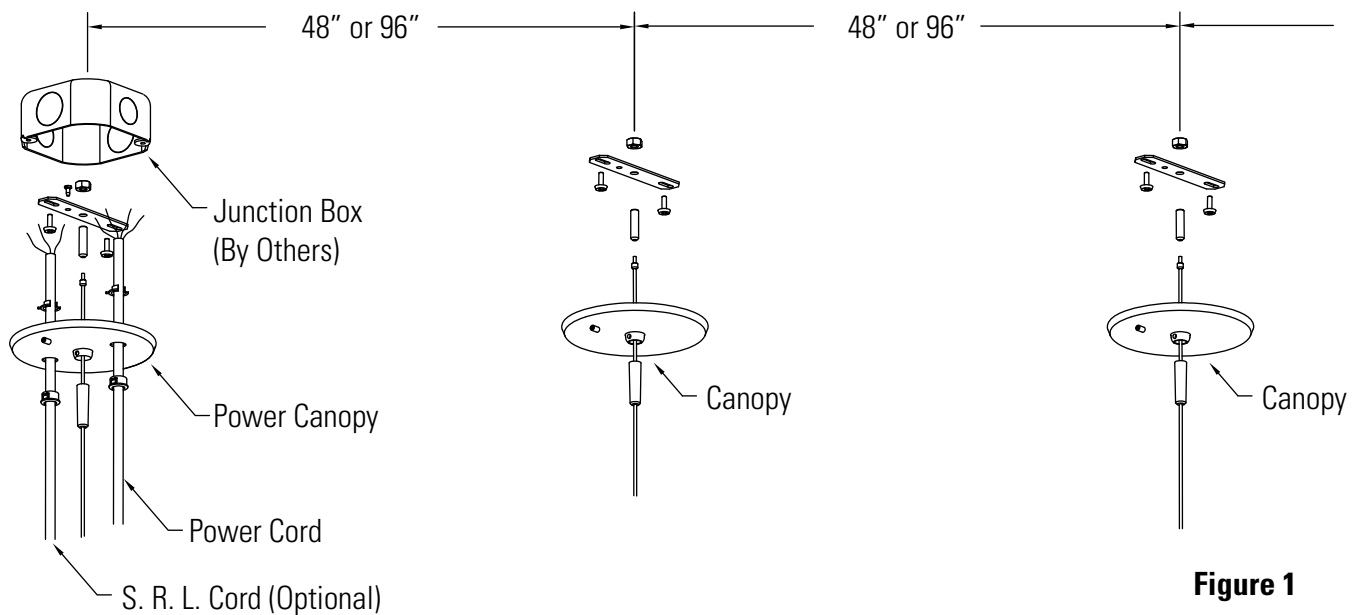

Figure 1
- A. Install the power cable suspension assembly to the junction box. (Fig. 1)
- C. The first suspension in each row should be from the power feed end, which contains a male power cord and an end cap. (Fig. 1)